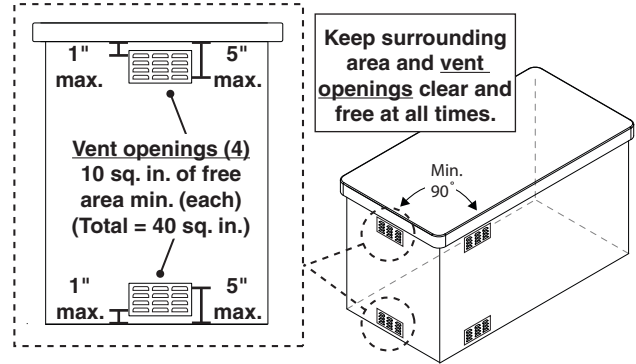
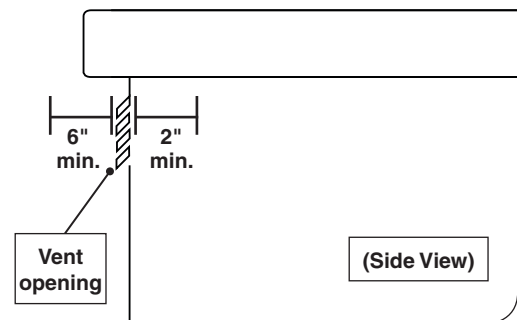

Fig. 8-1 Ventilation detail
Fig. 8-2 Vent openings clearance
**One side of the enclosure shall be left completely open to the outside; OR 4 (minimum) ventilation openings MUST be created (reference Fig. 8-1 and Fig. 8-2):**
The clearance between the openings and any items outside of the enclosure is a minimum of 6". The clearance between the openings and any items within the enclosure is a minimum of 2". See Fig. 8-2.